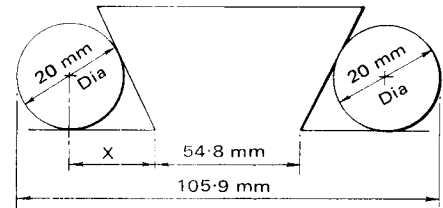

Fig. 1.29
- Find the dimension  $X$  shown in Fig. 1.29.